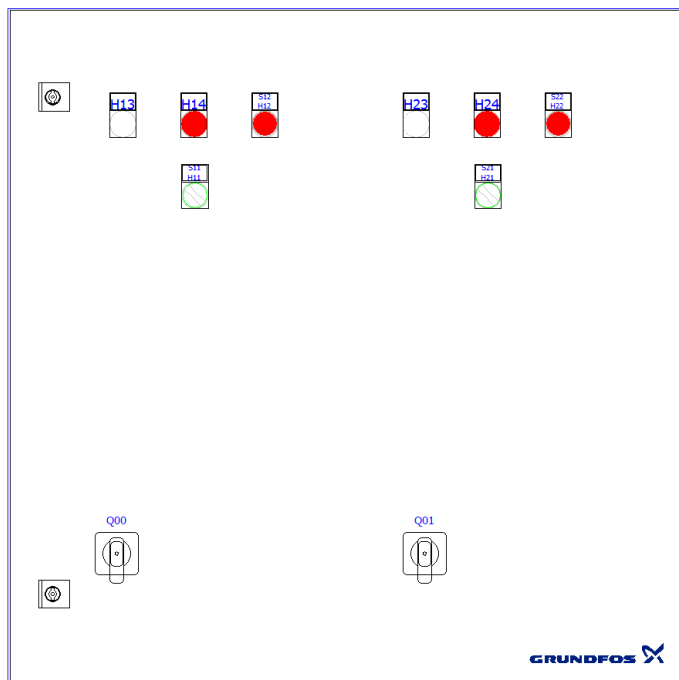
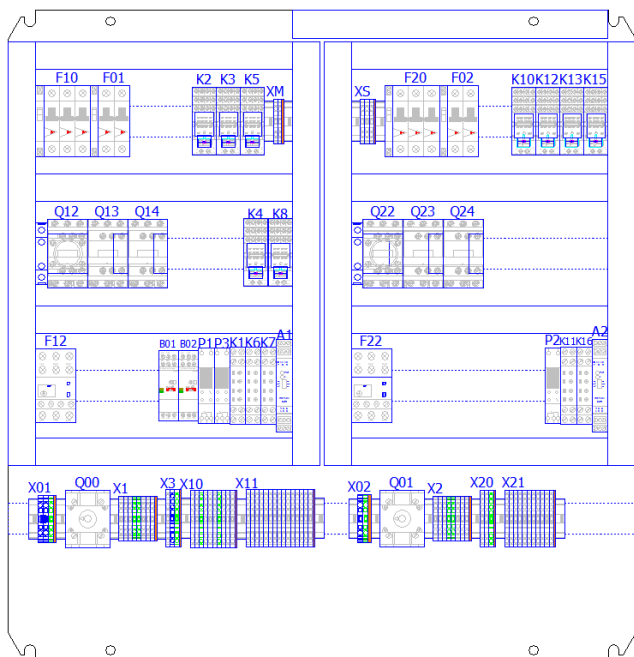

Fig. 2 Operating elements in the cabinet door
Fig. 3 Functional elements in the control cabinet
The operating elements in the cabinet door shows fig. 2 and the functional elements in the control cabinet fig. 3. The figures show the cabinet for star-delta-starting. The device tags (DT) stated in the wiring diagram are indicated as well.